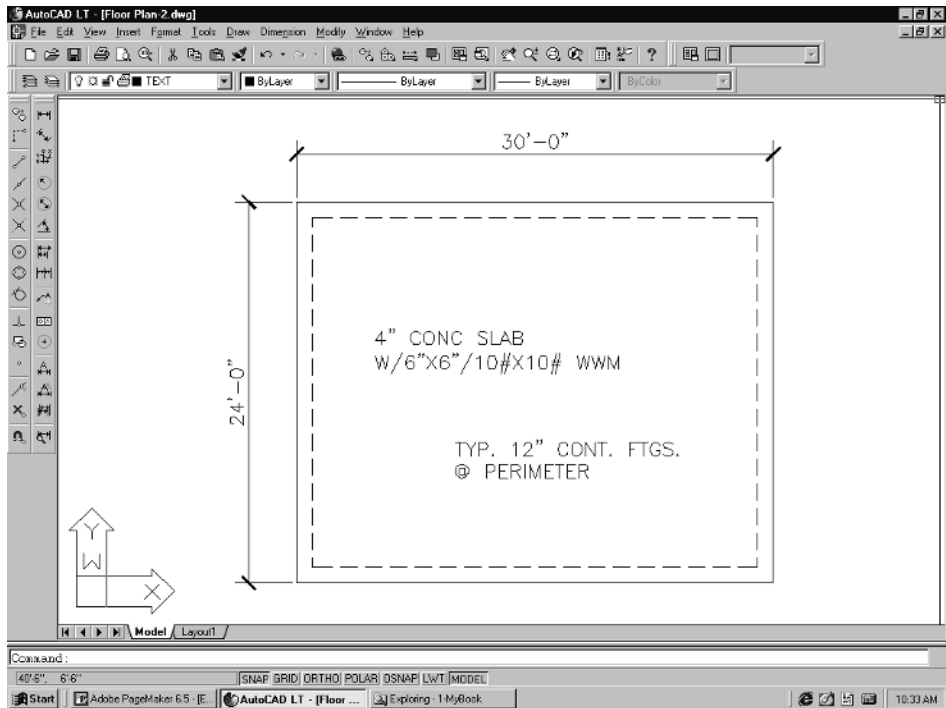

Figure 3-12
12. Next, using MText again, label the perimeter footings as in Figure 3-12.